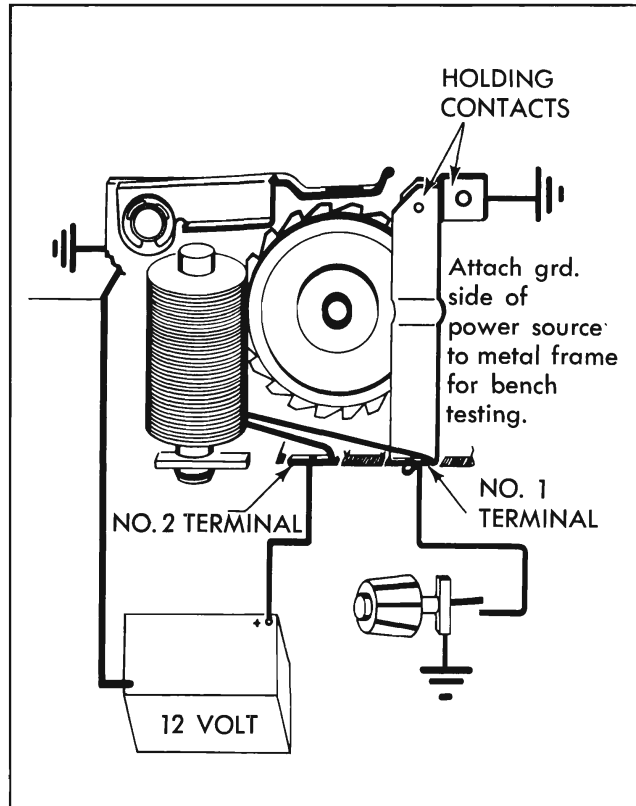

Fig. 11-99 Pump Wiring Circuit
Depressing the dash switch washer button closes the washer pump relay circuit to ground. (Refer to Fig. 11-99). (NOTE: If wiper was "off" the wiper switch is mechanically turned to the "On" position by the washer button.)
1. Remove washer pump cover and connect 12 volt power supply to washer pump as shown in Fig. 11-99. Connect jumper wire from terminal No. 1 to ground. Turn ratchet pawl to the position shown in Fig. 11-99. Ratchet pawl should be pulled toward relay pole and engage ratchet teeth. Failure to do as described above indicates an open relay coil.